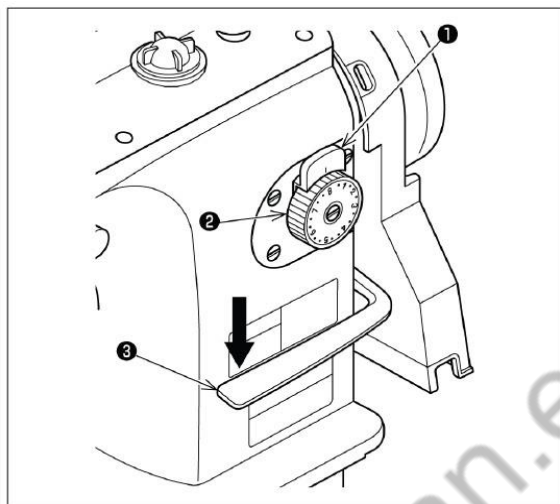

Fig.12
To change the stitch length, press push lever (1) and turn stitch dial (2). For reverse stitching push reverse feed lever (3) down. The machine performs reverse feed stitching as long as the lever is held depressed. Release the lever and the machine will immediately resume the forward stitching mode. See fig.12.